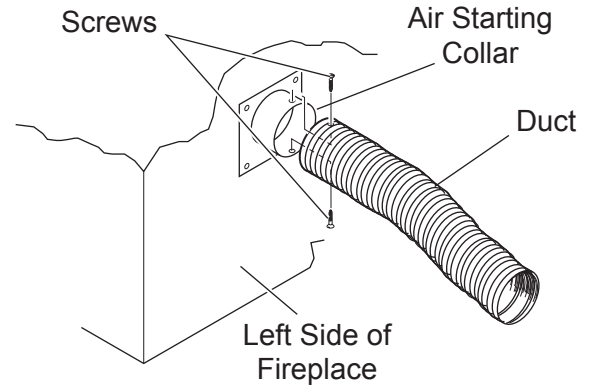

Figure 21 - Attaching Outside Duct to Starting Collar
4. Attach outside duct to starting collar with duct clamp or screws. *See Figure 21.*
6. Select and cut a piece of duct long enough to attach to the fireplace and stick out at least 3" beyond the face of the wall to which the AK-4 inlet air vent will be attached. Cut duct with a standard pocket knife. *See Figure 21.*